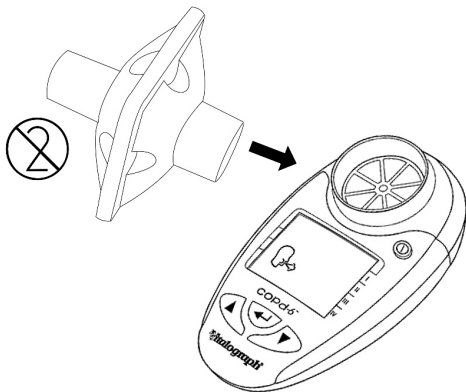

Figure 2 - Mouthpiece Inserted into Flowhead
3. Attach a mouthpiece to the flowhead, see Figure 2.